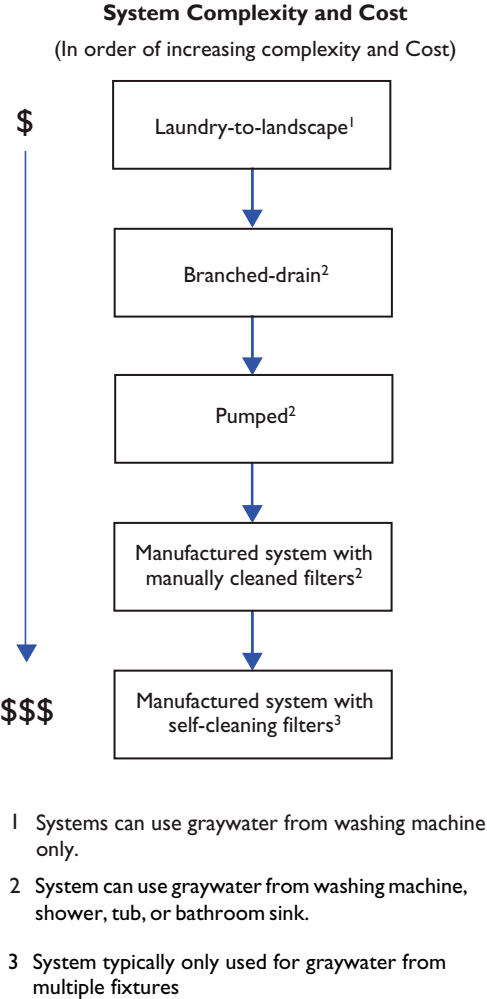

Figure 1. Guidance for choosing your graywater system.
- 6. Read about types of graywater systems starting on page 16 and decide which is best for you. Figure 1 provides some guidance for your selection.